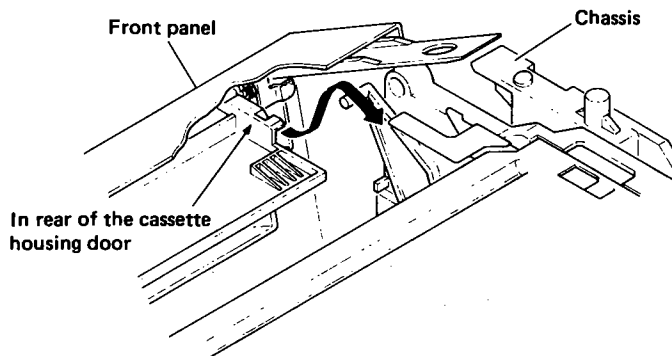

Fig. 1-1-10 Cassette housing door
3. Install the front panel as shown in Fig. 1-1-10 and reengage the tabs. Supply power and use a spare cassette to check for normal loading and eject operations